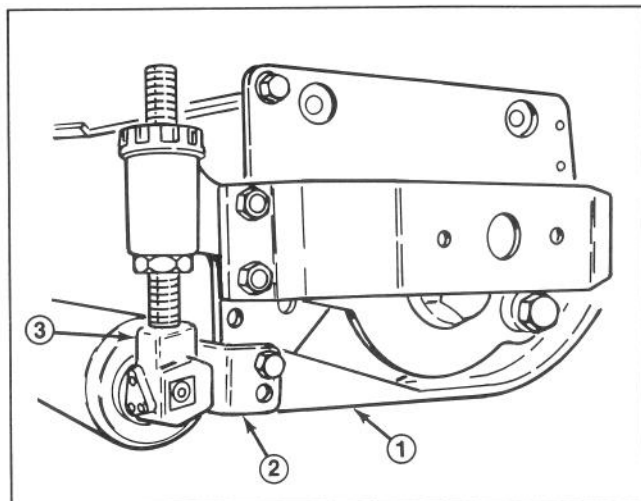

Figure 1
1. Remove bolt securing skid to roller bracket (Fig. 1).
2. Remove (3) bolts and locknuts securing roller bracket to roller adjuster (Fig. 1).